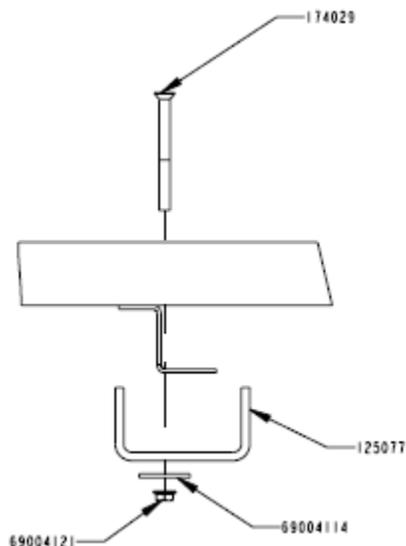

Figure 3
- 7) If Z-section interferes with installing rivet, use bracket (TBB125077) over the Z-section as shown in Figure 3, along with bolt (TBB 174029), washer (TBB 69004114) and Flange Nut, (TBB69004121).